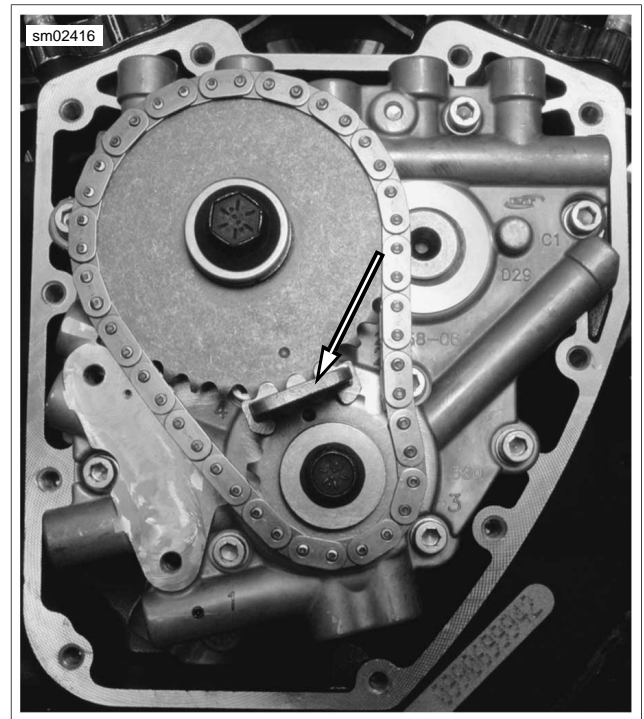

Figure 3-68. Camshaft Locking Tool
- c. See Figure 3-68. To prevent rotation, position the CRANKSHAFT/CAMSHAFT SPROCKET LOCKING TOOL (Part No. HD-47941) between the crank and primary cam sprockets. The handle of the tool is stamped "Crank" and "Cam" to ensure proper orientation. Tighten the crank and primary cam sprocket flange bolts to 15 ft-lbs (20.3 Nm). Remove the sprocket locking tool.